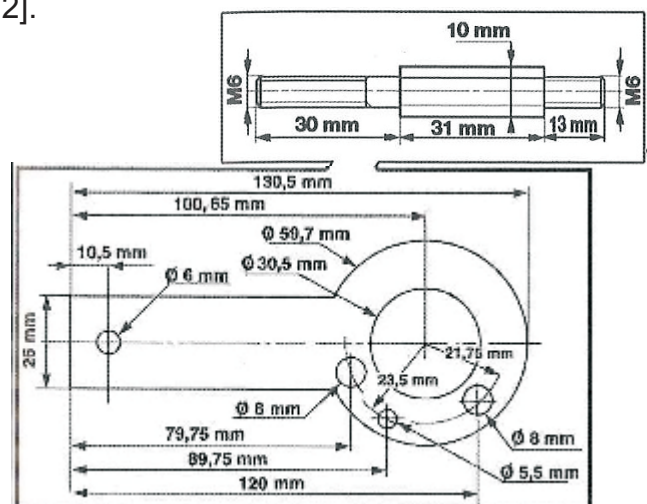

FIG. 2
- Specific tools to lock the crankshaft [FIG. 2].